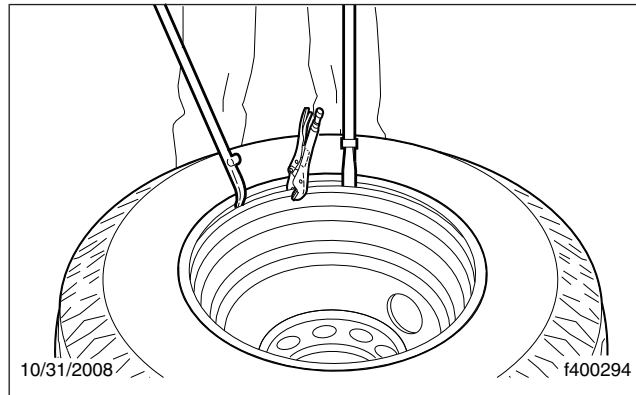

Fig. 11, Working the Upper Bead into the Wheel
- 1.2 Screw the valve nut onto the stem from the opposite side. Make sure the rubber bushing and metal collar or nut are centered and fit snugly in the valve hole. See Fig. 11.
- 4.2 Using the spoon end of the tire iron, and with the stop toward the wheel, work around the bead. See Fig. 11. Work small sections, until the bead slips over the flange and into the wheel well.